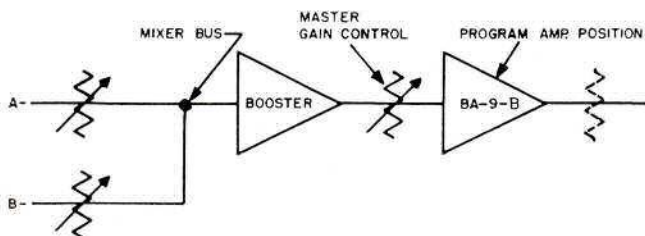

Fig. 1. The BA-9-B Uni-Level Amplifier as an Automatic Level Control Amplifier
- d. **May be used as an automatic master gain control for program line.** (See Fig. 1—Typical Applications.)
The application of automatic level control to a studio system is outlined in Figure 1.